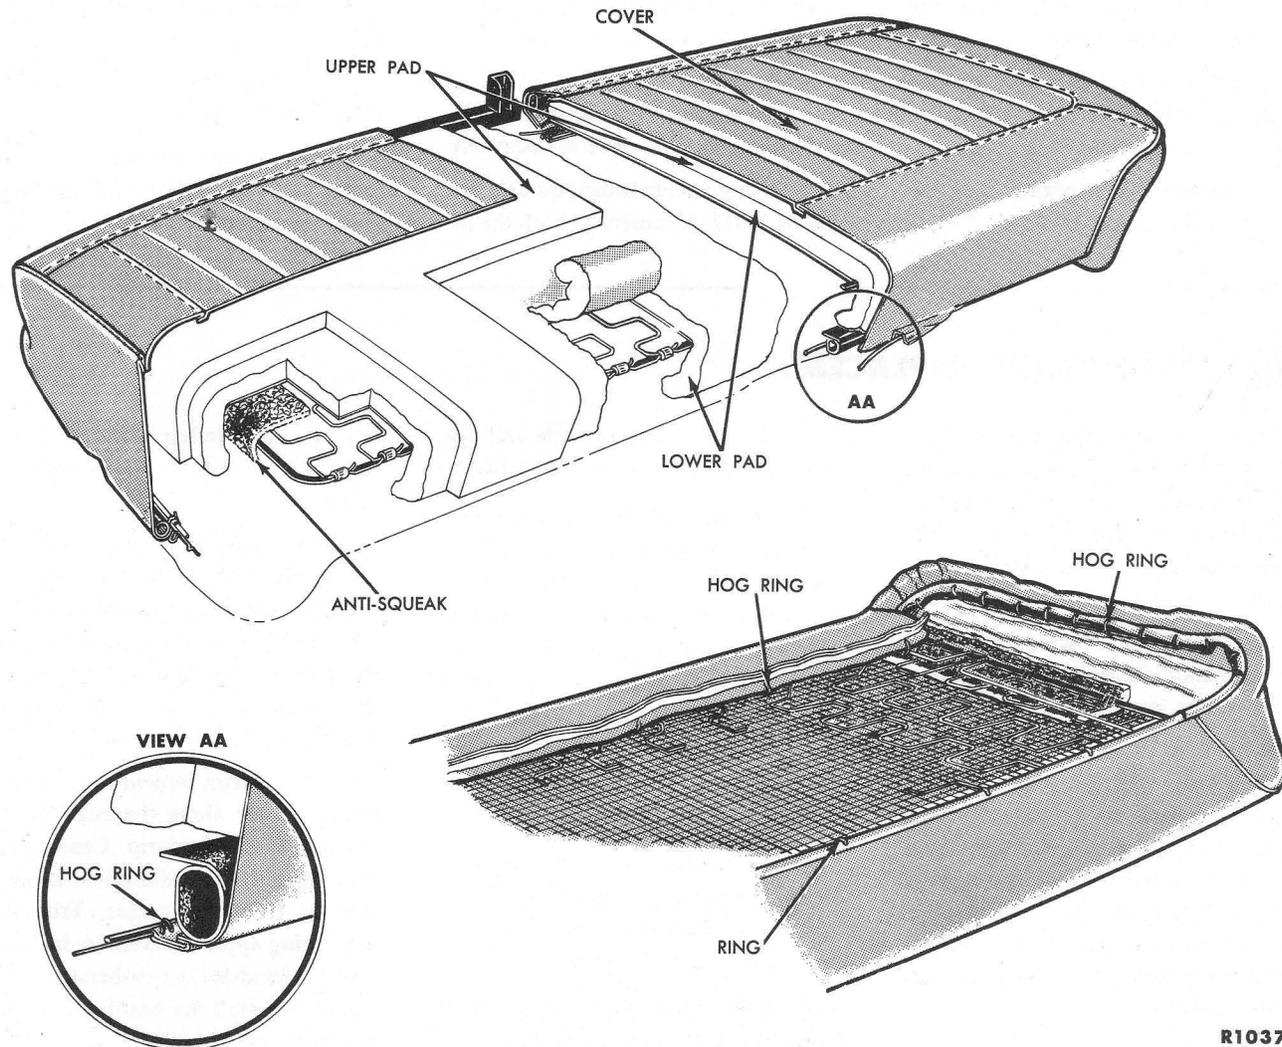

FIG. 4—Typical Front Seat Cushion Build-up
Figure 4 shows a front seat cushion buildup. Seat cushions for all other models are built up in basically the same manner. Therefore, when installing new seat cushion covers or pads, refer to Fig. 4 for the location of listing wires, hog rings, anti-squeak pads, and seat pad stack-up.
5. Fasten the sides of the cover to the seat frame side with hog rings through the holes provided (Fig. 4).